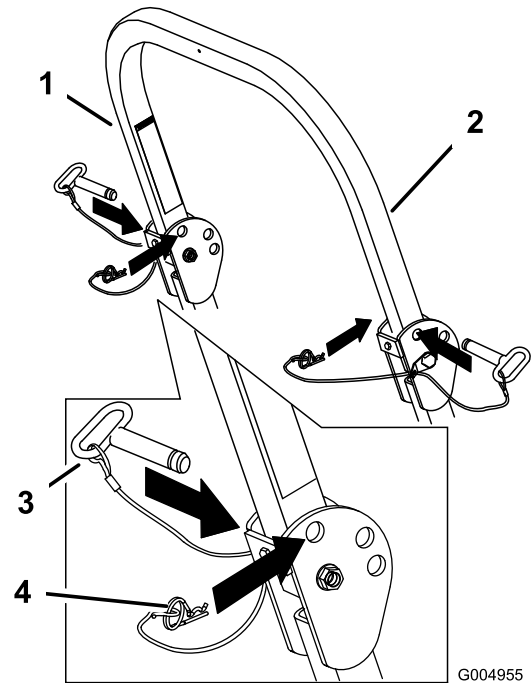

Figure 6
1. Remove the hairpin cotter pins and remove the two pins (Figure 6).
3. Install the two pins and secure them with the hairpin cotter pins (Figure 6).
4. To raise the roll bar, remove the hairpin cotter pins and remove the two pins (Figure 6).
5. Raise the roll bar to the upright position and install the two pins and secure them with the hairpin cotter pins (Figure 6).